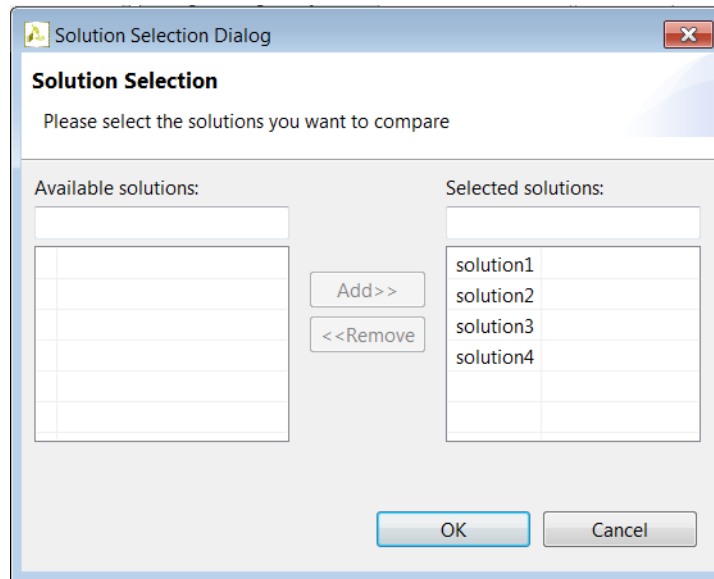

Figure 4-28: Compare All Solutions for Lab 3
12. In the Solution Selection dialog box, add each of the four solutions to the Selected Solutions pane (Figure 4-28).